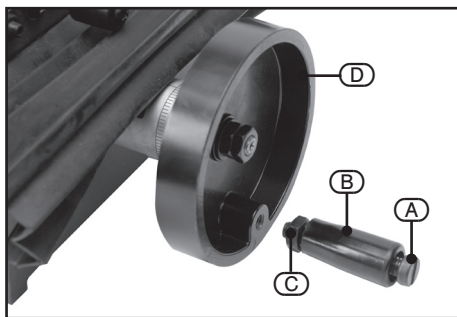

FIG.1
8.1 HANDLE ATTACHMENTS – FIG.1